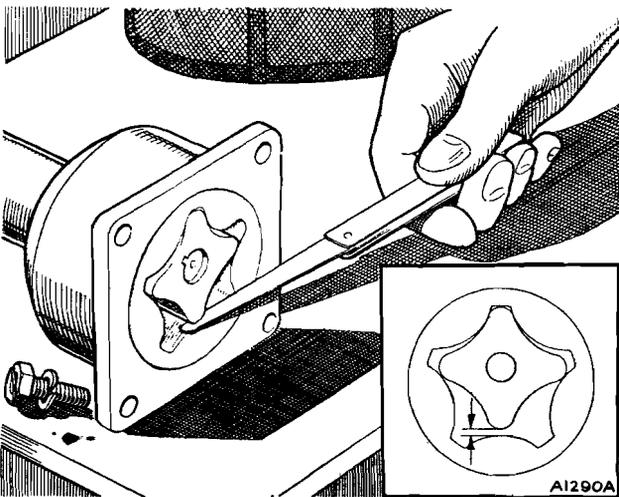

Fig. A.26
- (3) Repeat test (2) with the rotor lobes in the position shown in Fig. A.26, and if the clearance is in excess of .008 in. (.203 mm.) renew the rotors.